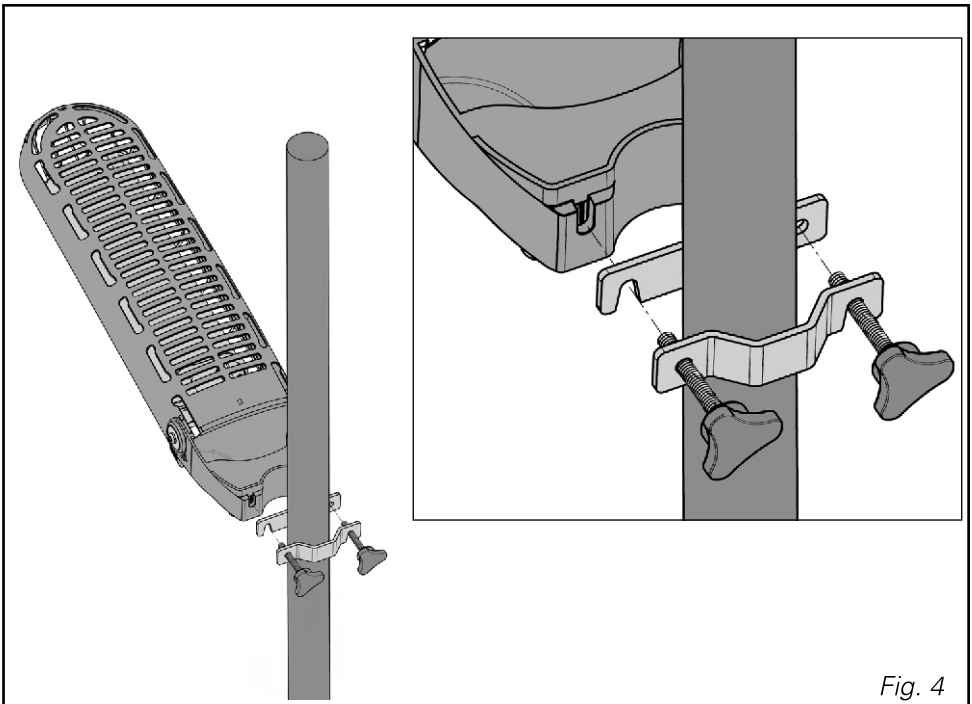

Fig. 4
- **Mounting on upright** (fig. 4) or **patio umbrella**. The appliance can be fastened to a upright or to the ribs of a patio umbrella, by the optional upright bracket (fig. 2-B). The section of the upright or the ribs can be circular with diameter between 20-45 mm, or square with side between 18-33 mm. Before tightening the 2 rear knobs to fasten the bracket, ensure that the slots (fig. 2-D) be at the bottom. Then adjust the angle of the appliance; at last make it firm tightening the sideward screws (fig. 2-C).